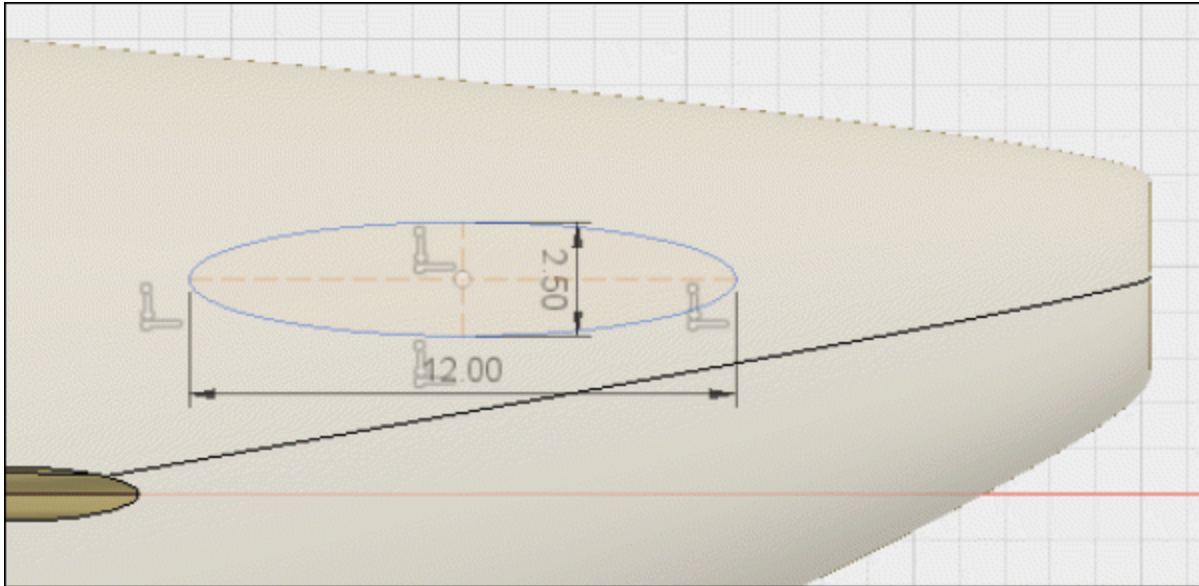

Figure-52. Creating sketch for rear wing
- Create an ellipse on the **XZ** plane using **Ellipse** tool as shown in Figure-52.